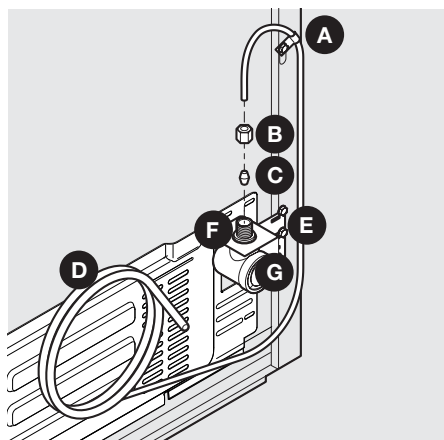

Figure 1
4. If you use **copper tubing** - Slide the brass compression nut, and then the ferrule (sleeve) onto the water supply line. Push the water supply line into the water valve inlet as far as it will go ($\frac{1}{4}$ "/6.4 mm). Slide the ferrule (sleeve) into the valve inlet and finger tighten the compression nut onto the valve. Tighten another half turn with a wrench; **DO NOT** over tighten. See Figure 1.